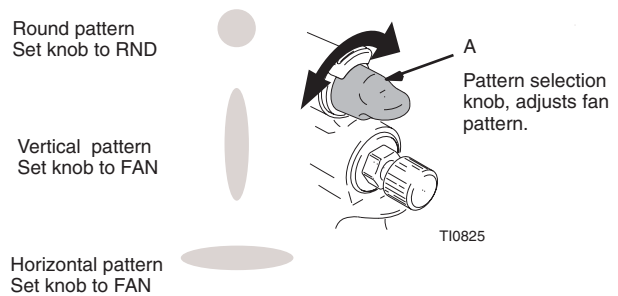

FIG. 7
The Pattern Selection Knob (A) determines the shape of the spray pattern. To create a round spray pattern set the pattern selection knob (A) to RND. To create a fan pattern, set the pattern selection knob (A) to FAN. Fig. 7.